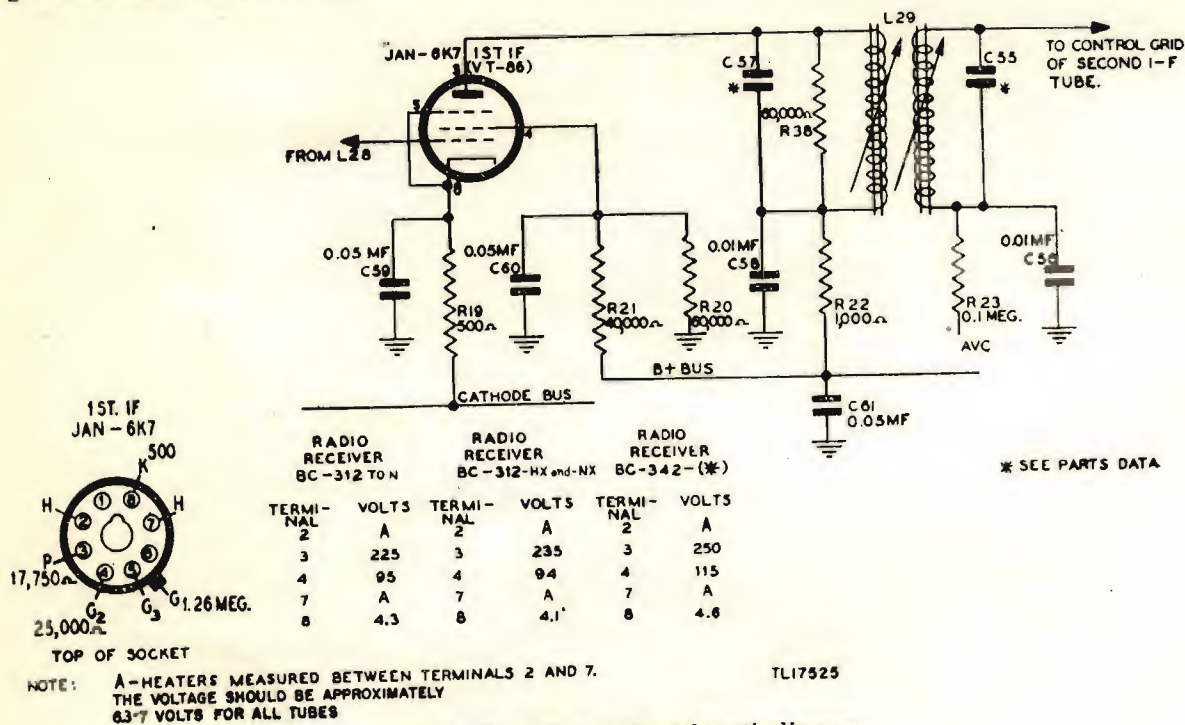

Figure 26. First i-f amplifier, schematic diagram.
b. VOLTAGE AND RESISTANCE MEASUREMENTS. The voltage and resistance measurements shown in figure 26 are made in the manner and under the conditions listed in paragraph 42b.